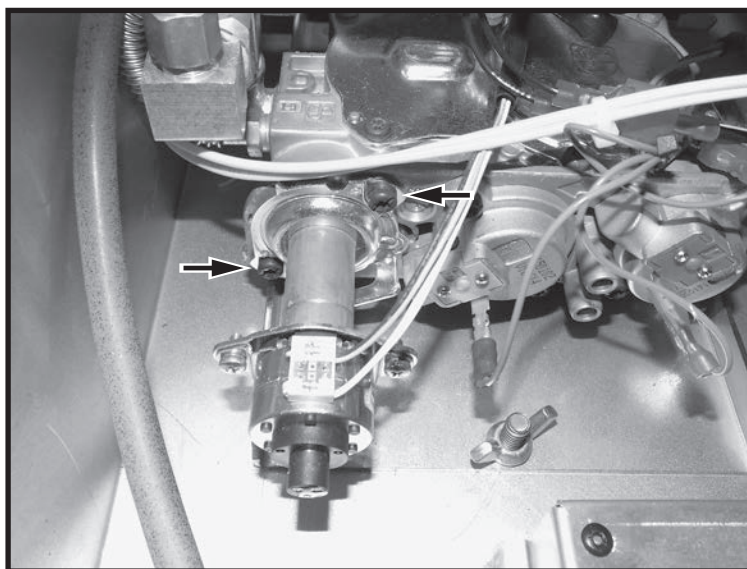
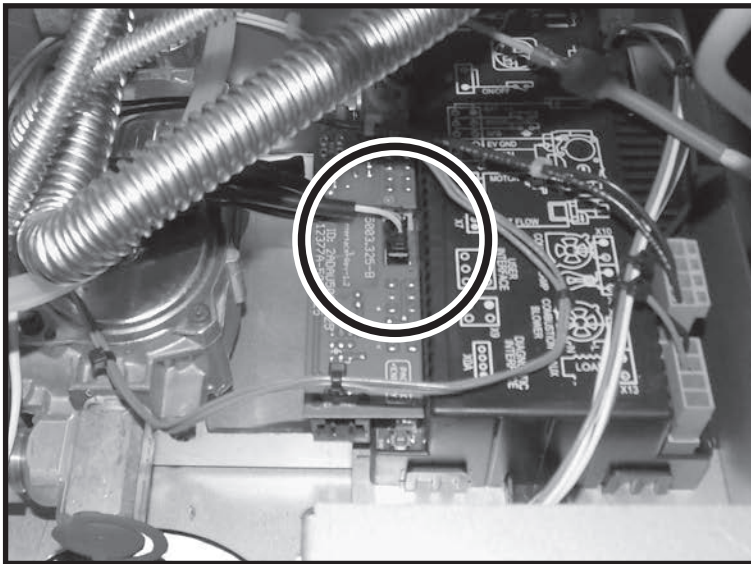

Figure 48: Stepper screws access.
Figure 49: Stepper connector location.
4. Locate the stepper (Figure 48) and follow its wires back to its electrical connection and disconnect (Figure 49).
5. Return to the stepper and locate and remove the two screws attaching the stepper to the valve (Figure 48). Discard these screws and use the two new screws included in the conversion kit.